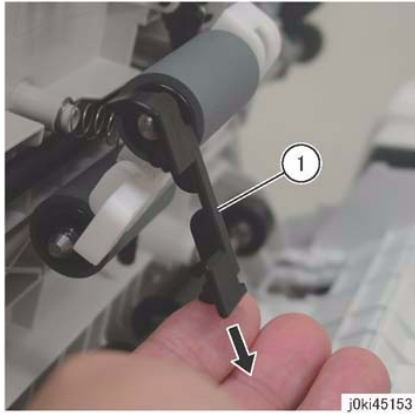

Figure 3 Housing Removal
- Remove the housing. (Figure 3)